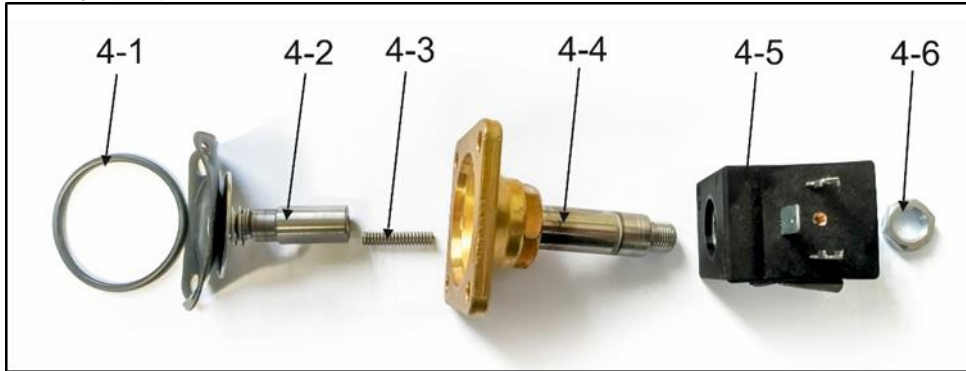

Fig. 32: Solenoid valve assembly
- Disconnect the valve connector (1).
- Unscrew the 4 screws (2).
- Remove the solenoid valve (3).
- Physically clean the 16 screws (2) to remove the thread locking adhesive.
- Install the solenoid valve (Fig. 32).
- Install the new solenoid valve using the 4 screws (2) and use a thread locking adhesive on the threads of the screws (such as Loctite 243).
- Reattach the solenoid valve connector and attach with a screw (1).